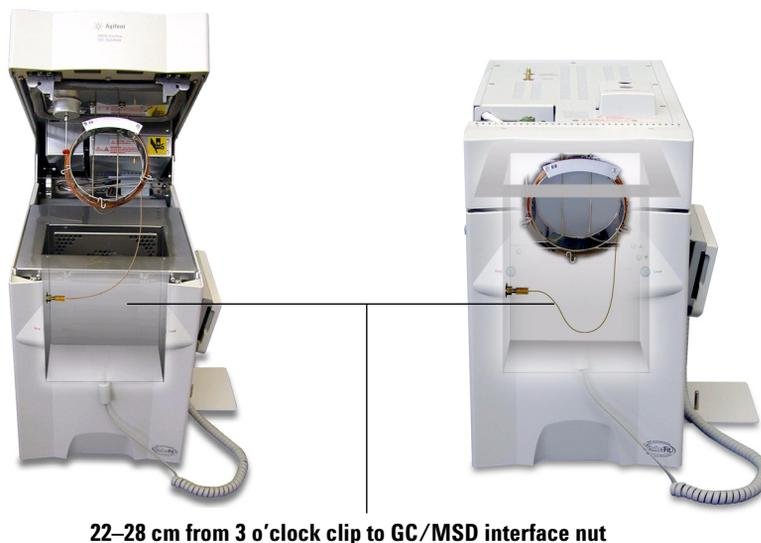

Figure 10 Oven door opened and closed
- 4 Adjust the length of the column from the 3 o'clock clip to the back of the interface column nut to be 22–28 cm. See Figure 10.